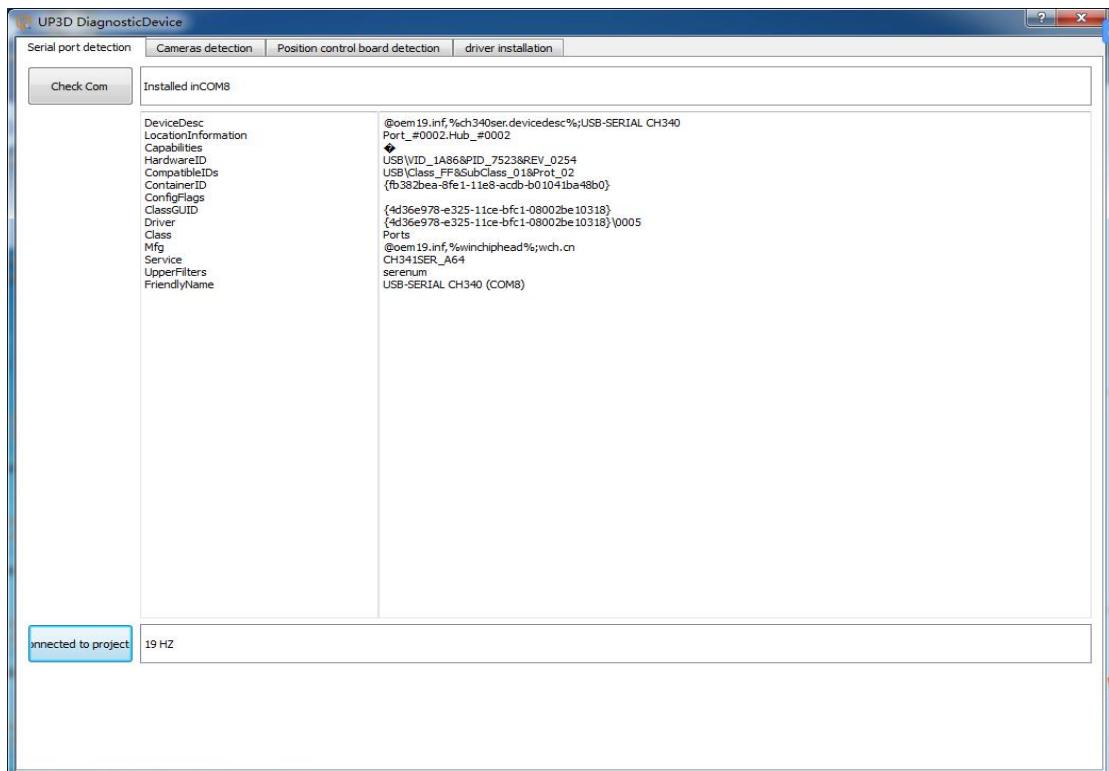

Figure 1-5
- ✓ Manual detection: expert detection mode, check the status and parameters of all components drivers and connection (figure 1-5) .